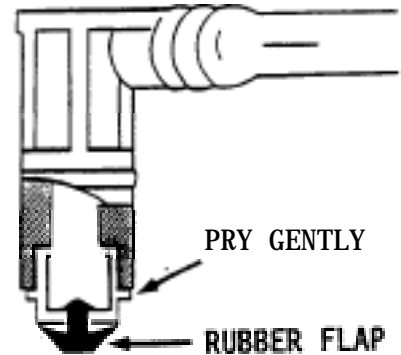

Figure 4. Old-design check valve with rubber flap.
3. If the rubber flap is missing from the old-design check valve (Figure 4), it will be necessary to follow one of the steps (4A or 4B) listed below to remove any remnants of the flap.
4. Remove the existing lower valve housing by prying gently at the joint with a screwdriver (Figure 4).